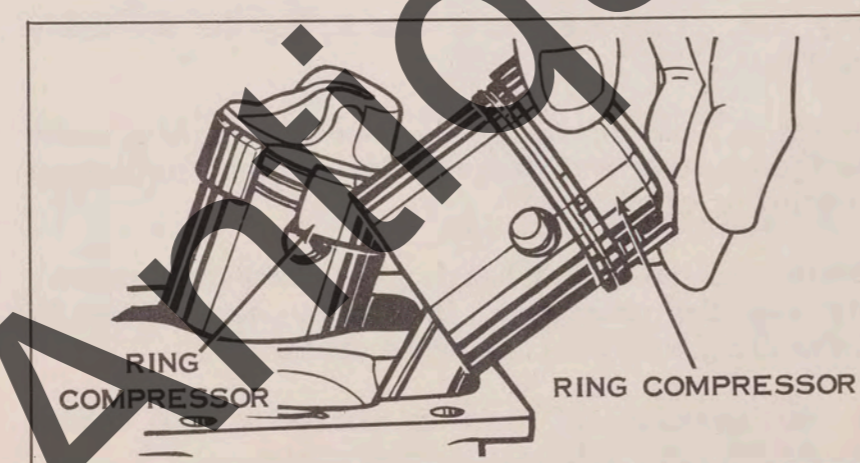

Figure 5-24. Ring Compressing Tools on Pistons
5. Install ring compressors over rings (see figure 5-24). Chamfer on outer edge of ring compressor must be toward deflector (top) end of piston.